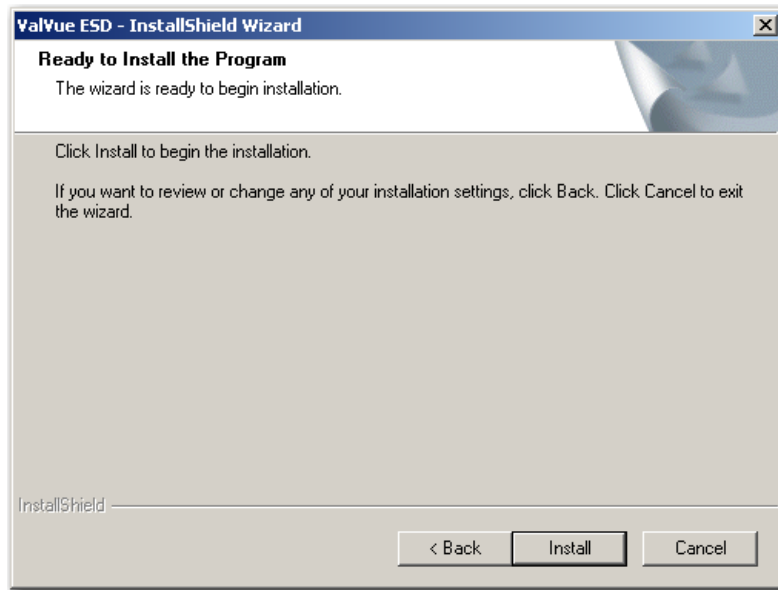

**Figure 6 Choose Destination Location**
- Click the accept radio button, click **Next** and the *Choose Destination Location* screen appears (Figure 6).